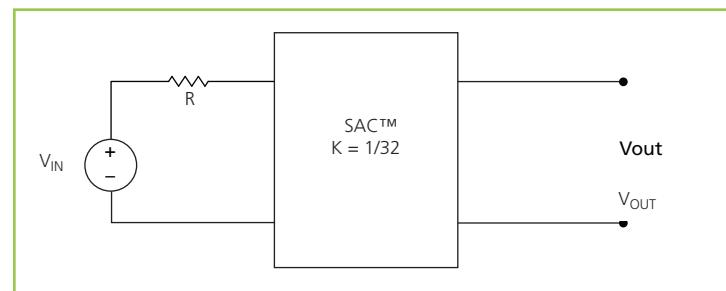

Figure 15 —  $K = 1/32$  Sine Amplitude Converter™ with series input resistor
interesting attributes. Assuming that  $R_{OUT} = 0 \Omega$  and  $I_Q = 0 A$ , Eq. (3) now becomes Eq. (1) and is essentially load independent, resistor  $R$  is now placed in series with  $V_{IN}$  as shown in Figure 15.
Assuming that  $R = 1 \Omega$ , the effective  $R$  as seen from the secondary side is  $0.98 \text{ m}\Omega$ , with  $K = 1/32$  as shown in Figure 15.